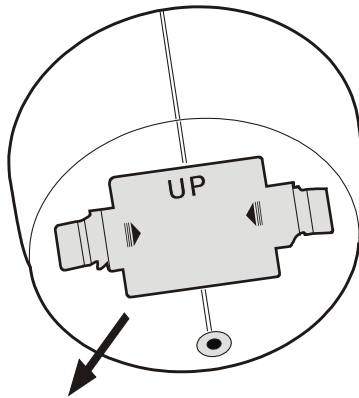

Figure.5
1. Press the “key” on the battery compartment in the direction of the arrow, pull out the battery compartment cover (Figure.5). Note: the UP words is engraved on the battery compartment, don’t mistake the direction.